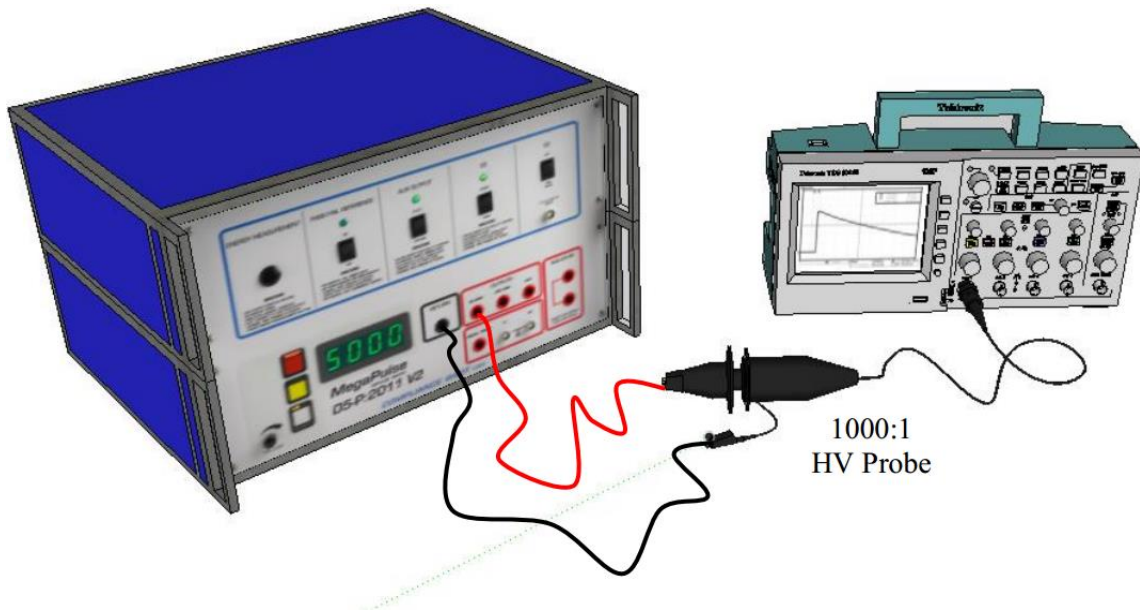

Figure 4. Waveform Measurement Setup (Image for reference only).
3. Connect the ends of the test leads to an appropriate measuring instrument (typically an oscilloscope with a high-voltage probe). Note that the **RETURN** lead is referenced to the chassis ground of the tester. See **Figure 4** as an example.